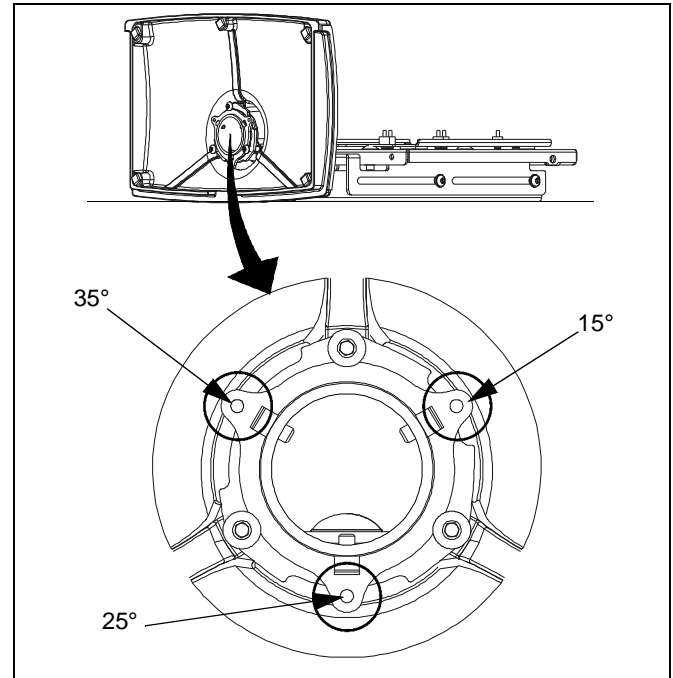

Figure 12
2. Insert one 10-24 X 1/2" Phillips head cap screw in one of the three swivel stop holes (15°, 25° or 35°) in the base of the stand. (See Figure 12)